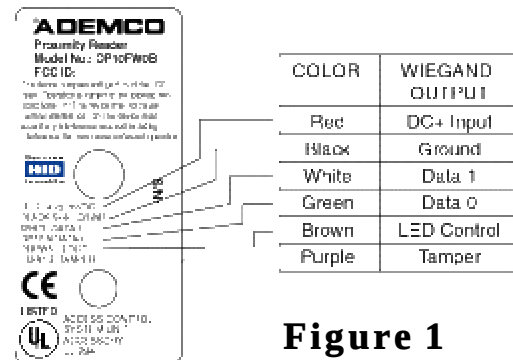

Figure 1
3. Splice the Reader pigtail wires to the corresponding Host wires and cover each connection (see Figure 1).
Figure 1 below shows how you should wire the Reader to the Host.